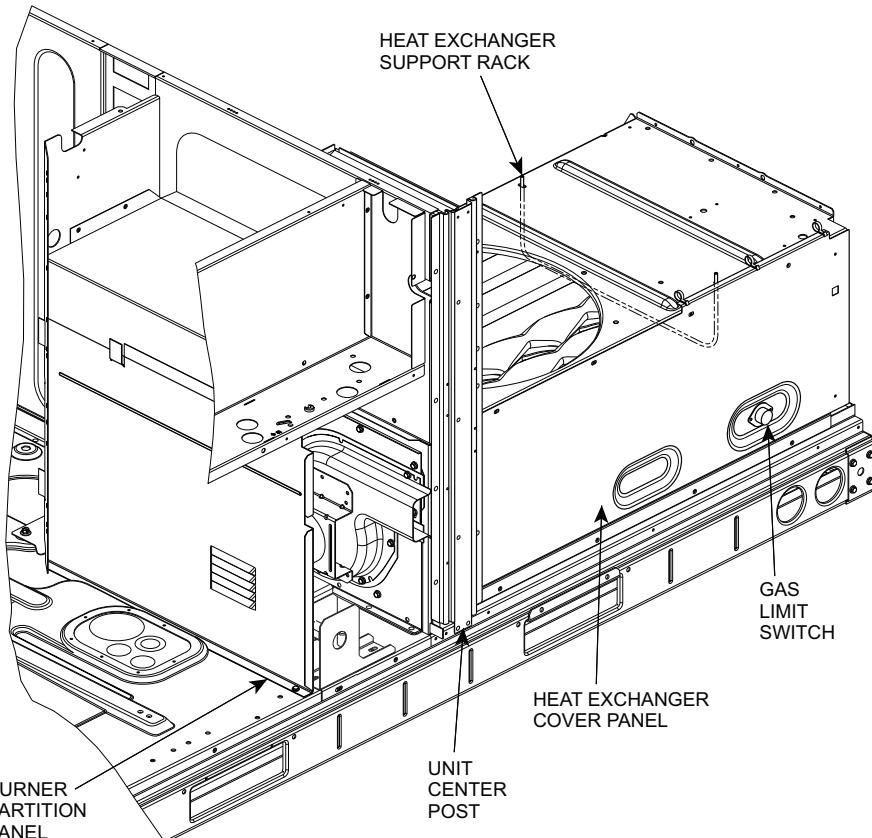

Fig. 52 — Heat Exchanger Access - Internal Panels, Center Post and HX Rack Locations
1. Remove the screw at the base of the burner partition panel (see Fig. 52) and slide out the panel.
5. Remove the screw at the base of the burner partition panel (see Fig. 52) and slide out the panel.
3. Remove the unit center post (see Fig. 52).